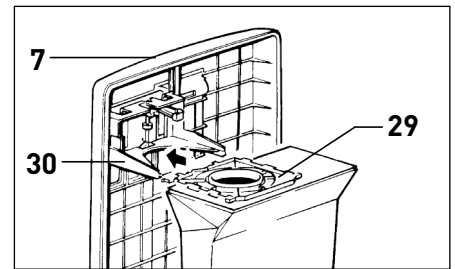

Figure 9
## Changing the Dust Bag - Figure 9
2. Bag not inserted properly.	2. Reinsert bag with cover release flap (5) up, until firmly latched in bag holder (see pg. 9, figure 9).